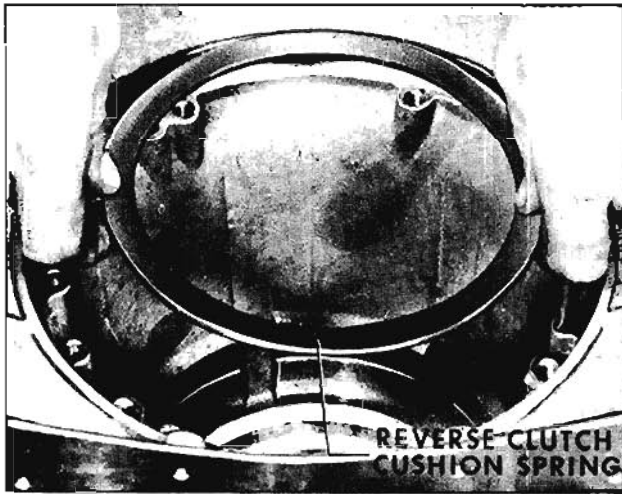

Fig. 6-421 Installing Cushion Spring
5. Install reverse clutch cushion spring. Install the cushion spring with the dished or concave side up. (Fig. 6-421)